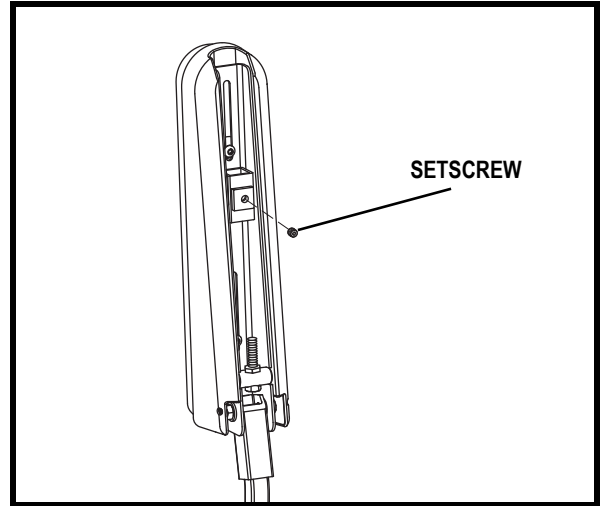

Figure 19. Underside of Armrest
2. Loosen the setscrew on the controller bracket. **See figure 19.**